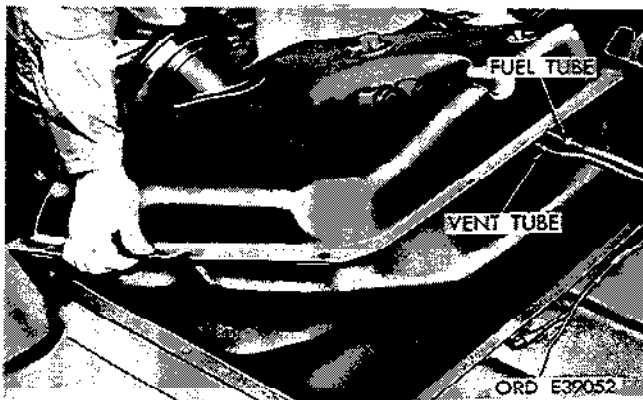

Figure 2-117. Remove fuel tank.
(6) Carefully lift tank away from vehicle (fig. 2-117).